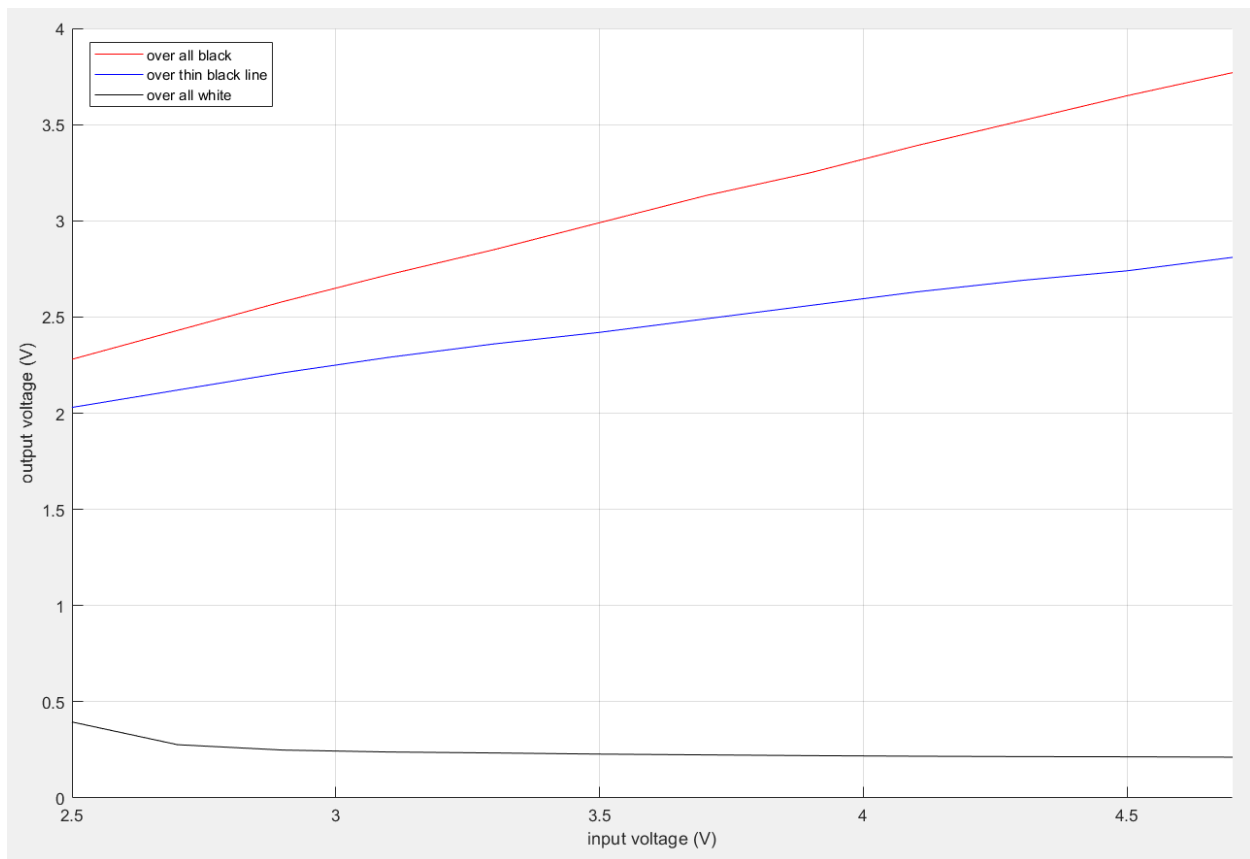

Figure 13 Output voltage dependence on input voltage over different features. $R1 = 1.5 \text{ k}\Omega$, $R2 = 220 \text{ k}\Omega$, height = 2 mm.
- If sensor unit is over all black, all white or over a thin black line. Reading over all black will have maximum value as almost no light is reflected to the sensor. Reading over all white will have the smallest value as almost all light is reflected to the sensor. Reading over thin black line will have value lower than reading over all black due to parasitic light reflected from neighboring sensors (which are over white). See Figure 13.